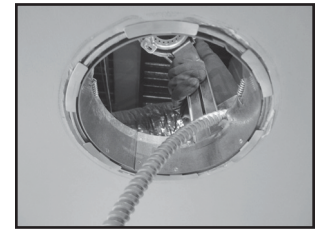

Figure 41.
9. Press LED module and reflector assembly into retrofit ring assembly until flush with ceiling (Figure 41).